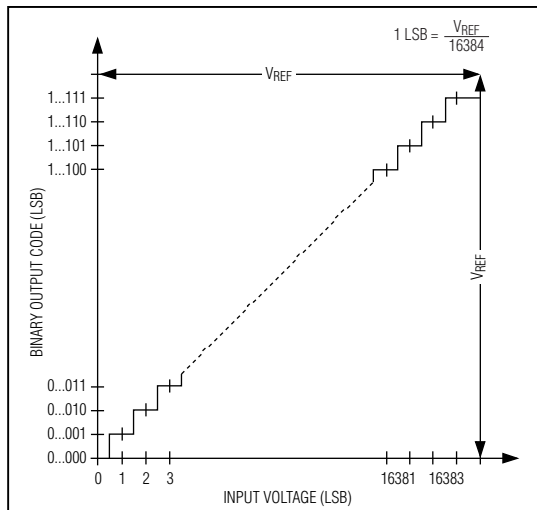
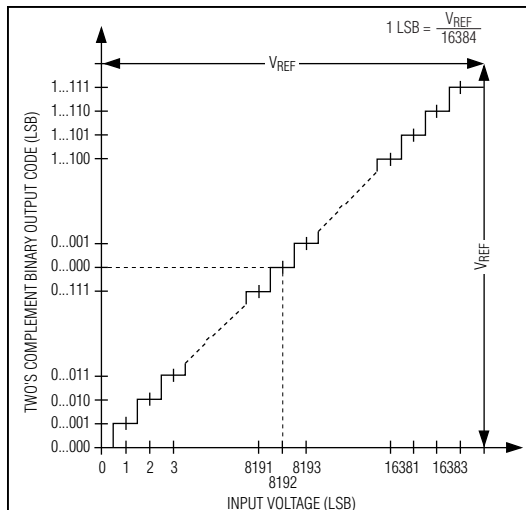

Figure 14. Unipolar Transfer Function
Figure 15. Bipolar Transfer Function
In unipolar input mode, the digital output is straight binary (Figure 14). For bipolar input mode, the digital output is two's complement binary (Figure 15). Data is clocked out on the falling edge of SCLK in MSB-first format.
Output data coding for the MAX1146-MAX1149 is binary in unipolar mode and two's complement binary in bipolar mode with $1\text{ LSB} = (V_{REF}/2^N)$, where N is the number of bits (14). Code transitions occur halfway between successive-integer LSB values. Figure 14 and Figure 15 show the input/output (I/O) transfer functions for unipolar and bipolar operations, respectively.